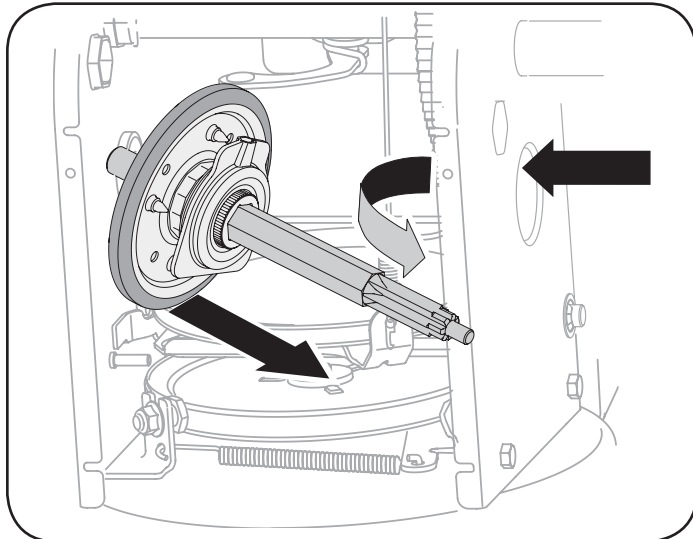

Figure 74
- Carefully position the hex shaft downward and to the left before carefully sliding the friction wheel assembly off the shaft. See Figure 74.